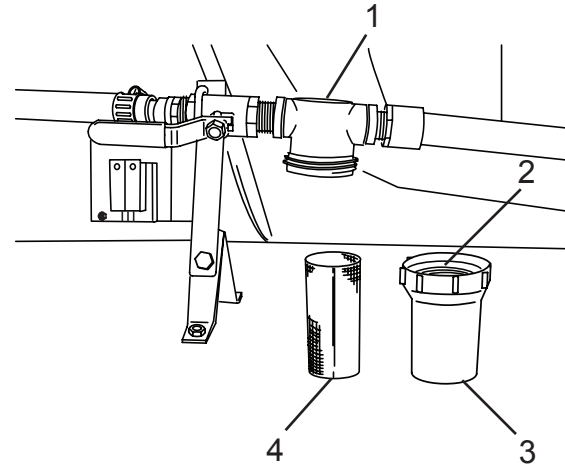

Figure 153
1. Remove (unscrew) the cup (Figure 153, Item 3), and remove the cup and strainer (Figure 153, Item 4) from the strainer head (Figure 153, Item 1).
2. Clean the strainer (Figure 153, Item 4) with clear water. Inspect the strainer. Replace if torn or damaged.
3. Inspect the cup seal (Figure 153, Item 2). Replace if torn or damaged.
4. Install the strainer (Figure 153, Item 4) and cup (Figure 153, Item 3).